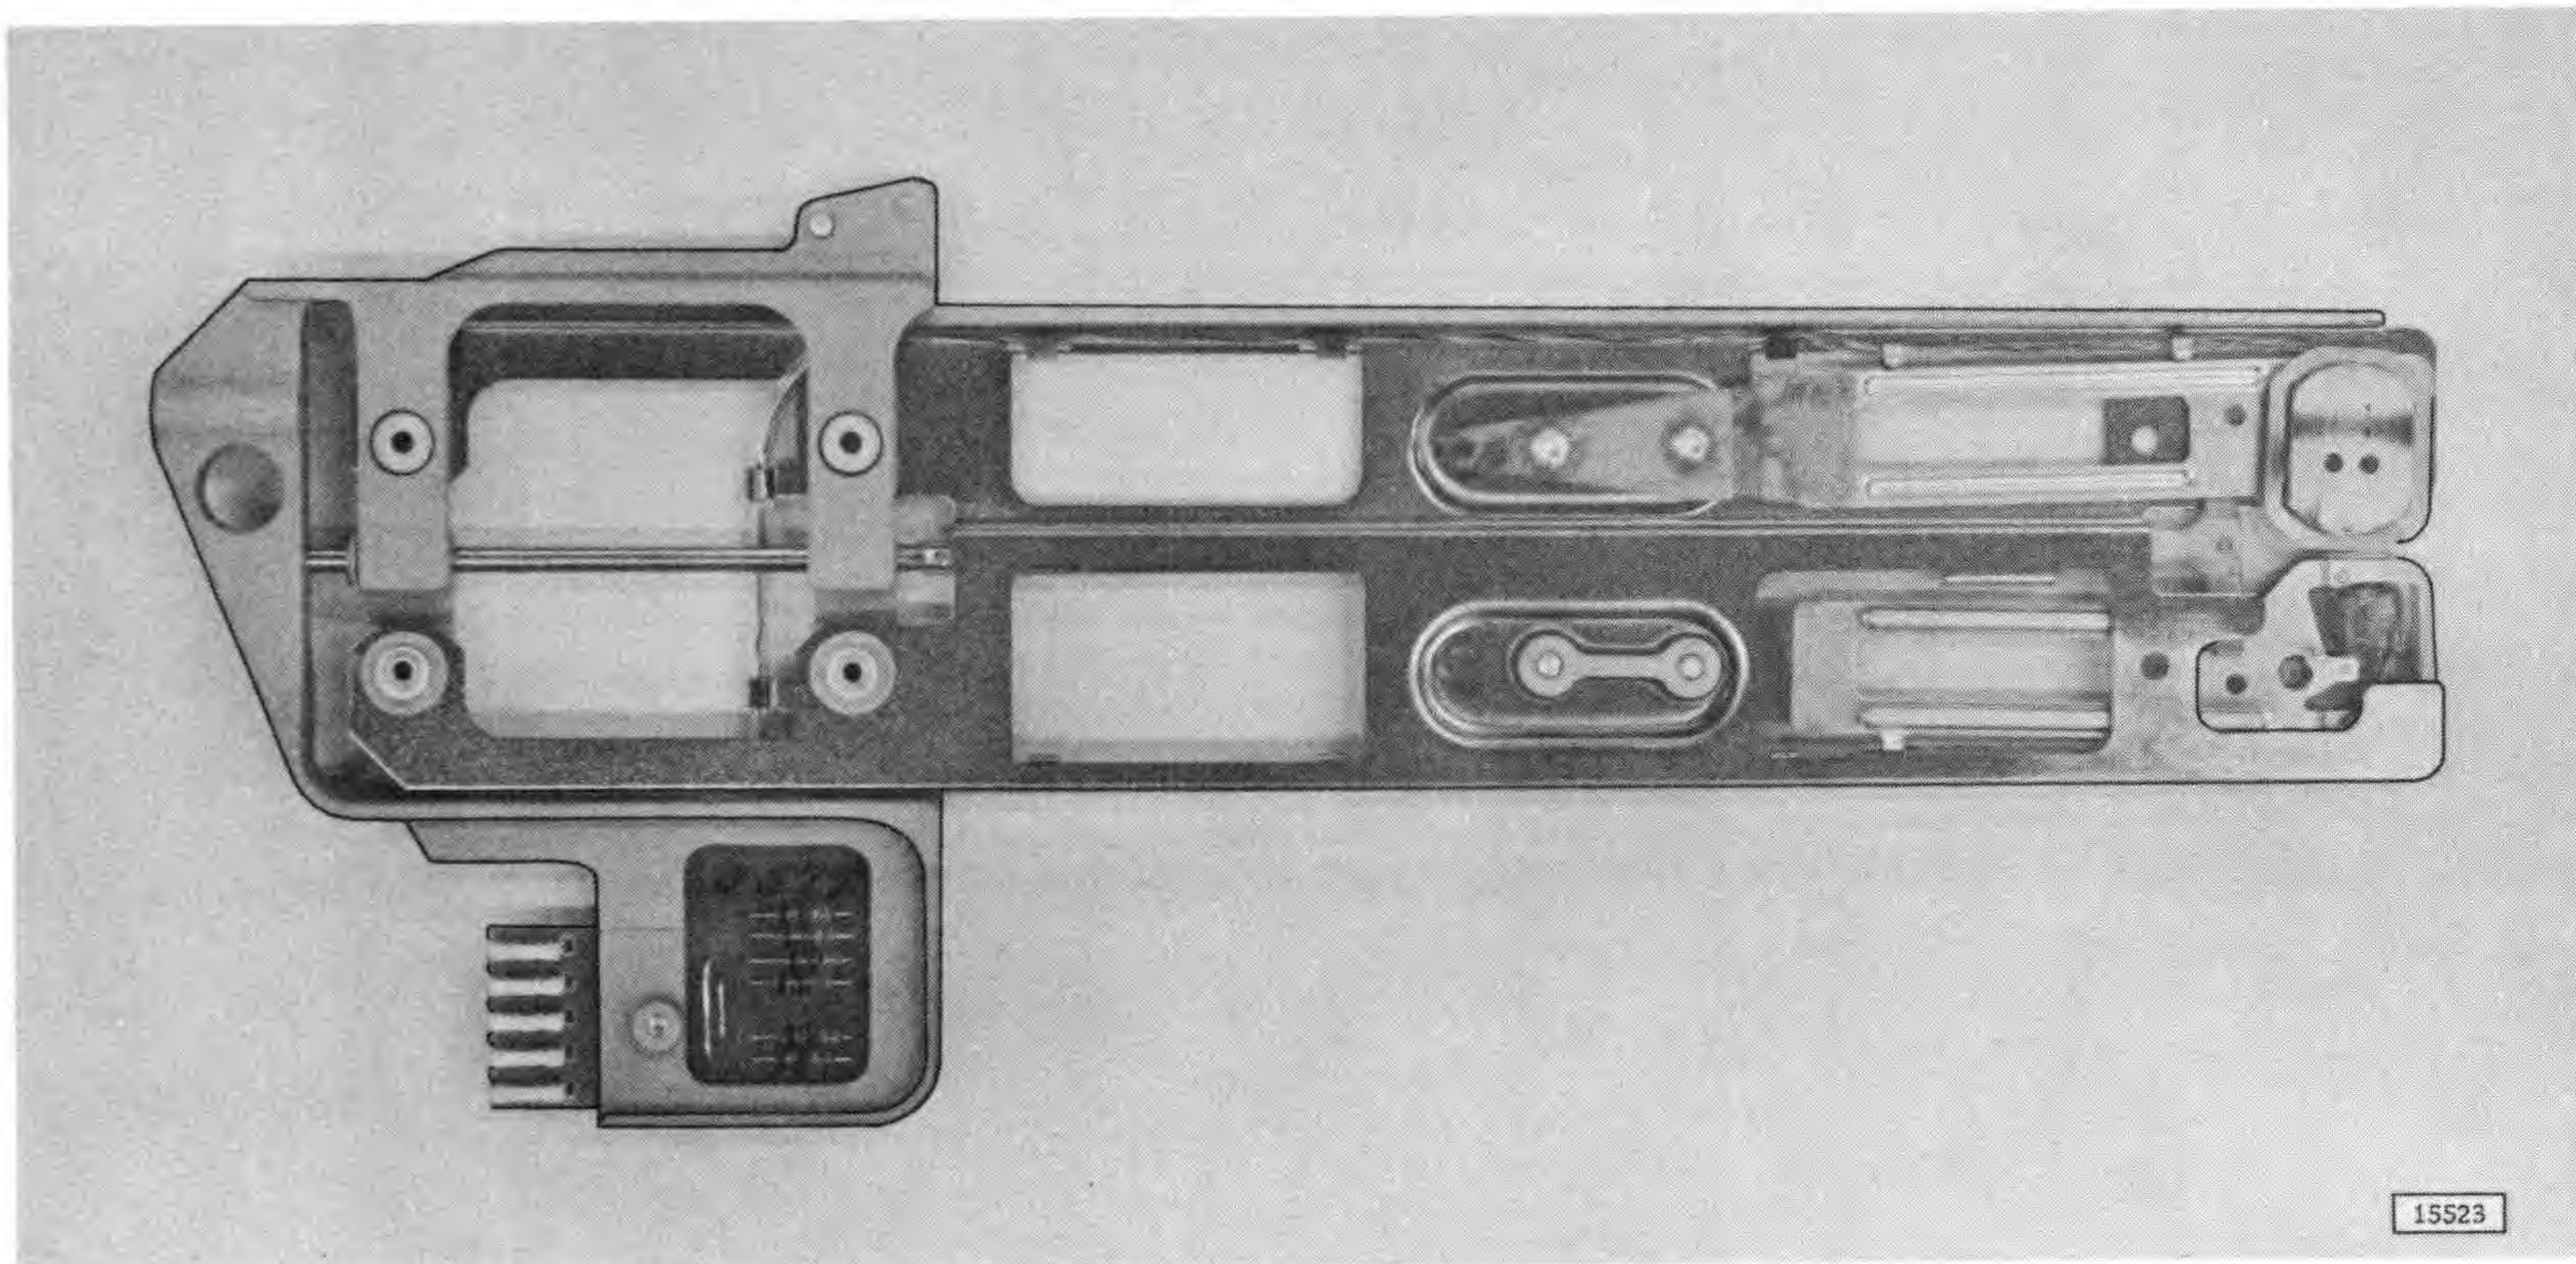

Figure 4-22. Drawer Assembly
#### 4.8 DRAWER ASSEMBLY (Figure 4-22)
2. Check for proper position of torsion rod (Figure 4-22).